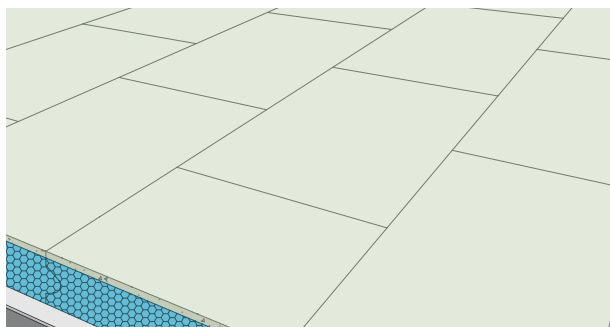

Figure 23
7. Stagger subsequent rows by half board lengths (Figure 23).